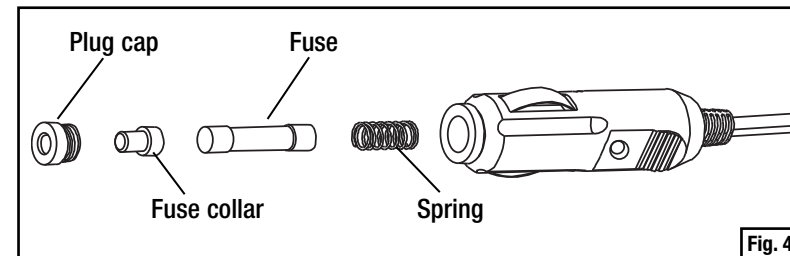

Fig. 4
- Check fuse in pump plug (see Fig. 4).